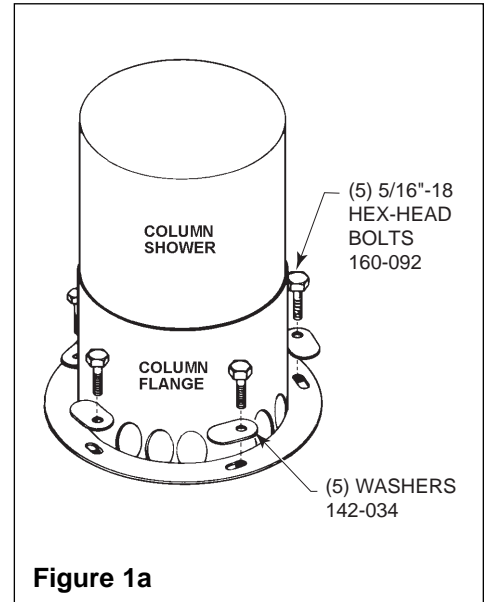

Figure 1a
2. Bolt the column shower to the drain with the five bolts (removed in procedure #1) and oval washers provided (see Figure 1a).